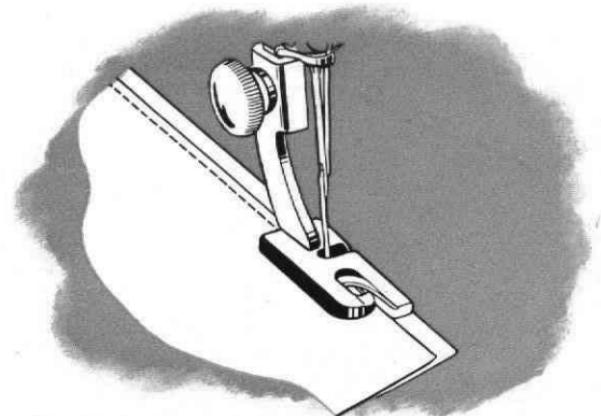

Fig. 40. Making a Felled Seam (First Operation)
1. Place right sides of material together, having edge of upper piece about $1/8$ inch to left of edge of under piece. Stitch the two pieces together, using hemmer as a presser foot. Guide both pieces by the projecting toe of hemmer, as shown in **Fig. 40.**